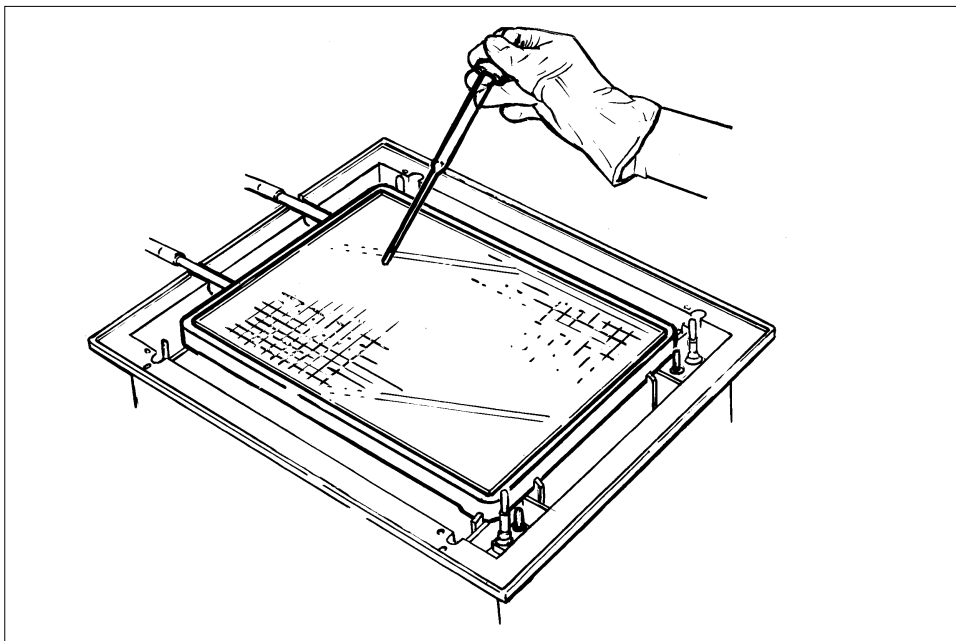

Fig. 6.
- Pipette approximately 3-4 ml of DryStrip Cover Fluid onto the cooling plate and position Immobiline DryStrip tray on the cooling plate (Fig. 6).